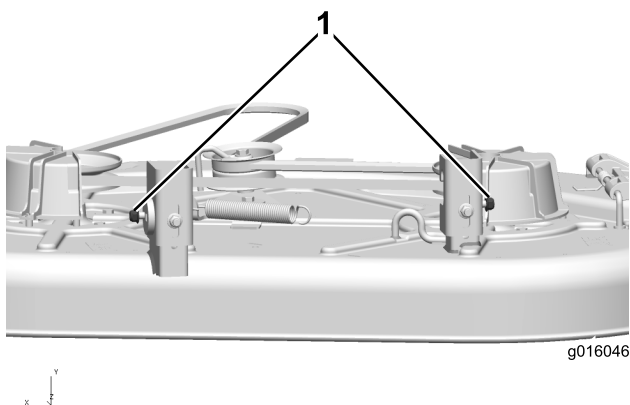

Figure 1
1. Loosen, but do not remove, the flange nut on the **outside** of each suspension bracket on the rear of the deck; see Figure 1.